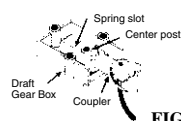

FIG. 3
2. Place coupler into Draft Gear Box, as shown in Fig.3. Add a little more '231 Greas-em and "toggle" coupler back and forth in box to burnish further.